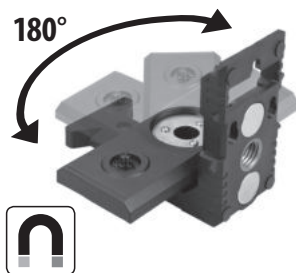

Fig. 1
- The laser device can be screwed on to a deflection arm of a magnetic holder (Fig.1), which is attached using magnets to a magnetic surface or is screwed on to a tripod (the holder has a thread for a 1/4" and 5/8" tripod) or screwed on to a (5/8") thread on a wall.